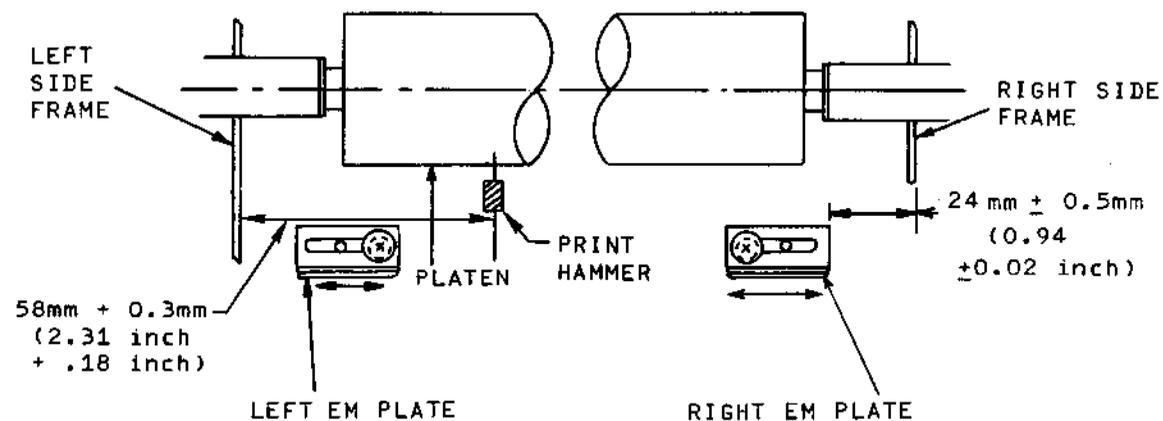

Figure 5-12 First Print Position and Right EM Plate Adjustment
##### 5.9.1 First Print Position (Figure 5-12)
- Position the right side EM plate  $24\text{ mm} \pm 0.5\text{ mm}$  ( $0.94 \pm 0.02$  inch) from the outside of the right side frame as shown in Figure 5-12.